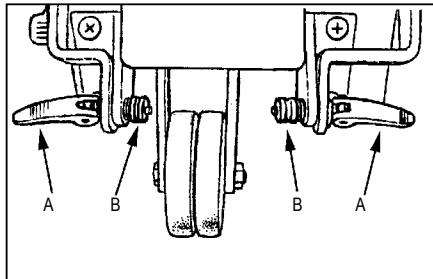

Figure 2
1. Open the quick release levers (2A) and unscrew the adjustment nuts (2B) to allow installation of the dolly. (See Figure 2)